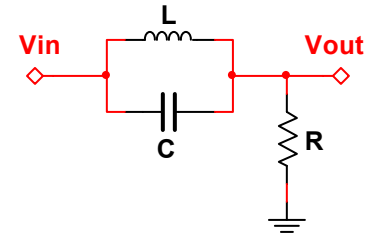

Fig. 1: A “tank circuit” consists of a parallel inductor and capacitor.
1) Consider the “tank circuit” in Fig. 1, where the inductor L and capacitor C are in parallel.